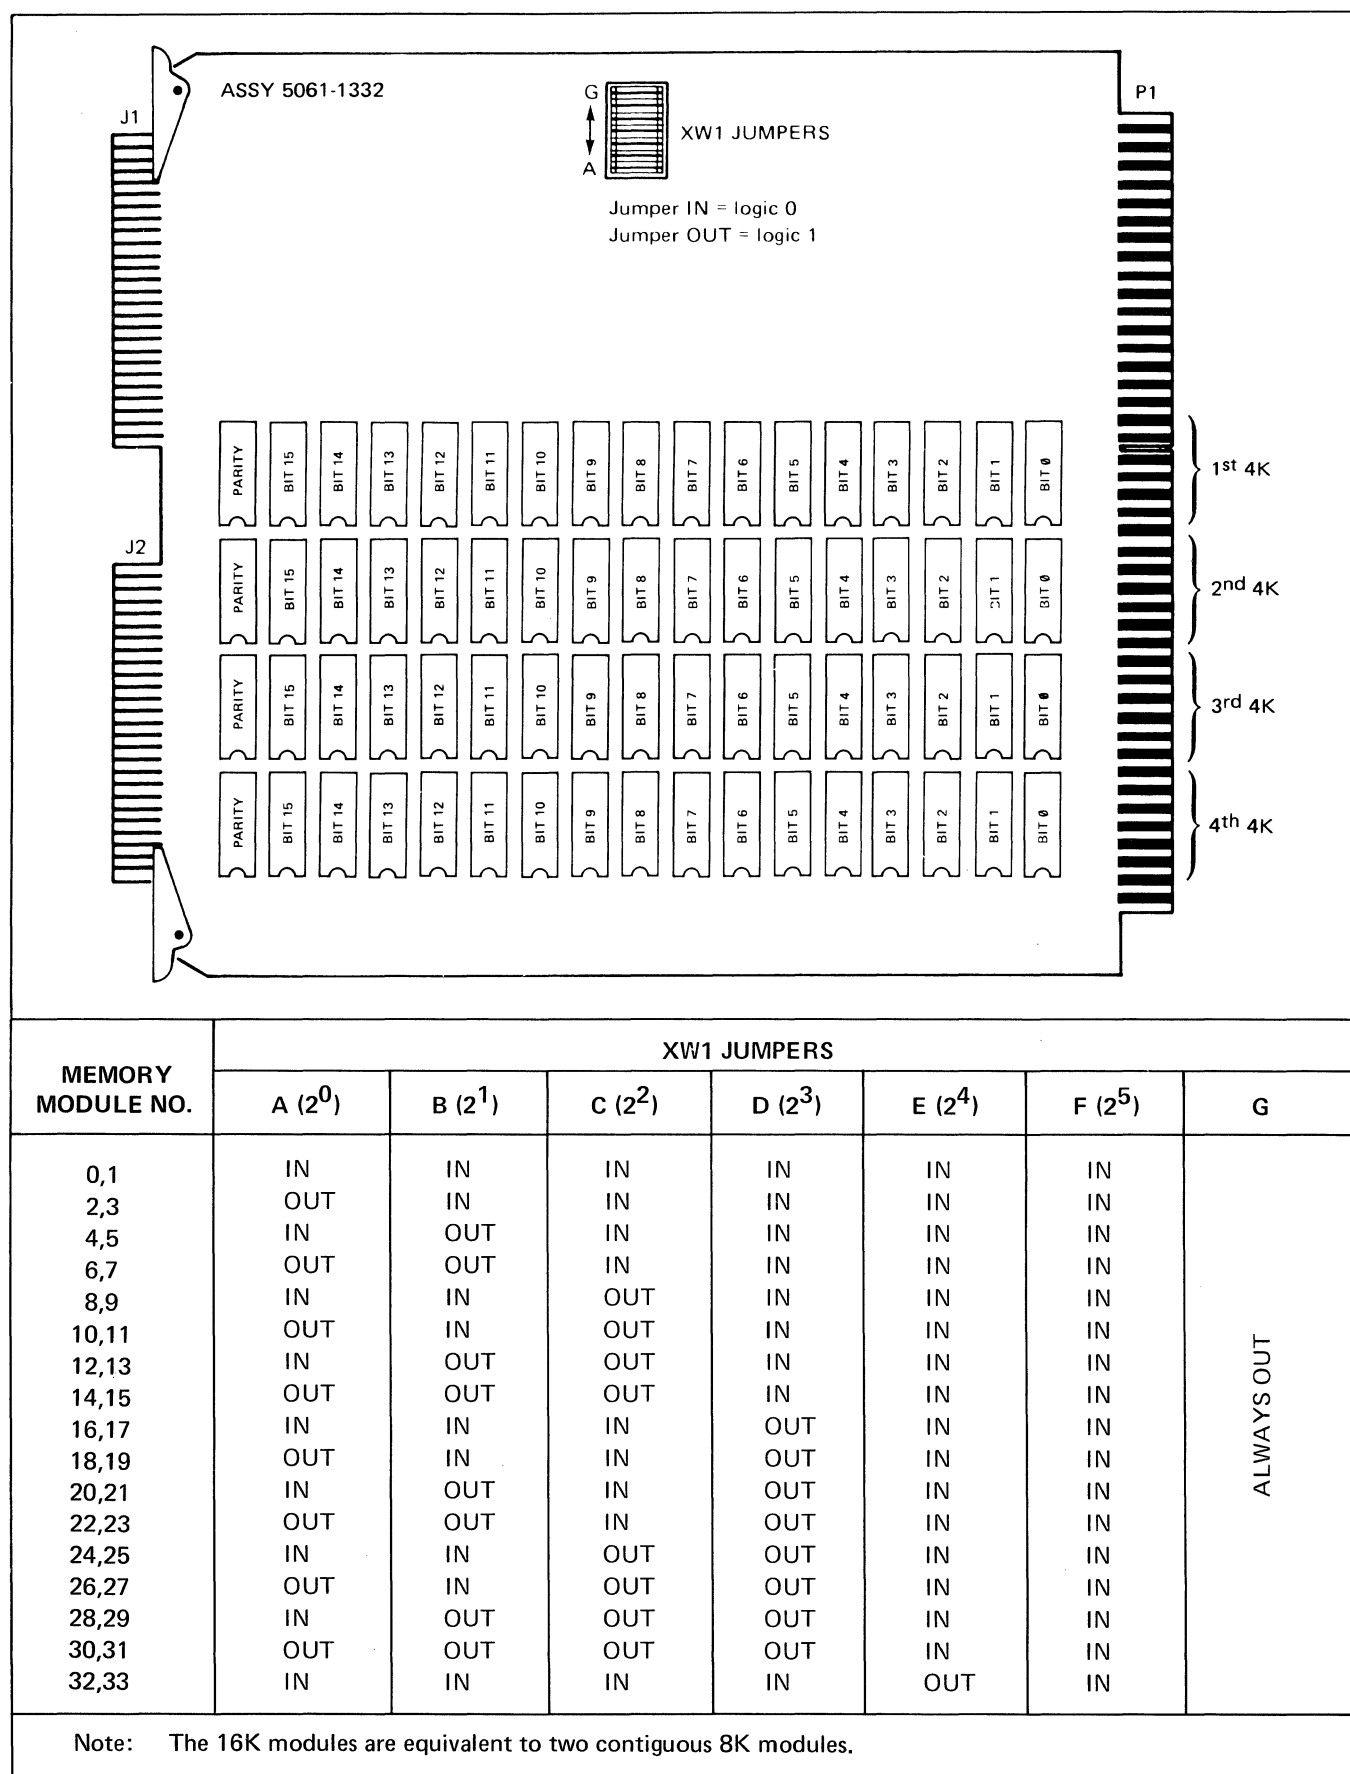

Figure 1. 16K Memory Module
A 16K memory module is equivalent to two contiguous 8K memory modules; therefore, two module numbers must be allocated to each 16K memory module as shown in figure 1. Notice that the module numbers must first be an even number followed by the next sequential odd number. This poses one minor restriction on module number assignments when a mixture of 8K and 16K memory modules reside in the same system.
- d. Assign memory module numbers to 16K memory module and install XW1 jumpers as specified in figure 1.
- f. Assign memory module numbers to 16K memory module and install XW1 jumpers as specified in figure 1.